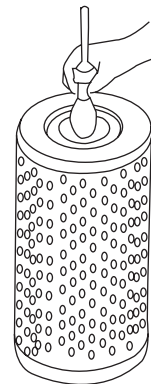

Figure 4-40
- After cleaning and drying it, when checking it by dropping a lamp into the outer filter element, if you find that there are small holes or there are already some very thin parts, replace the outer filter element. (Figure 4-40)